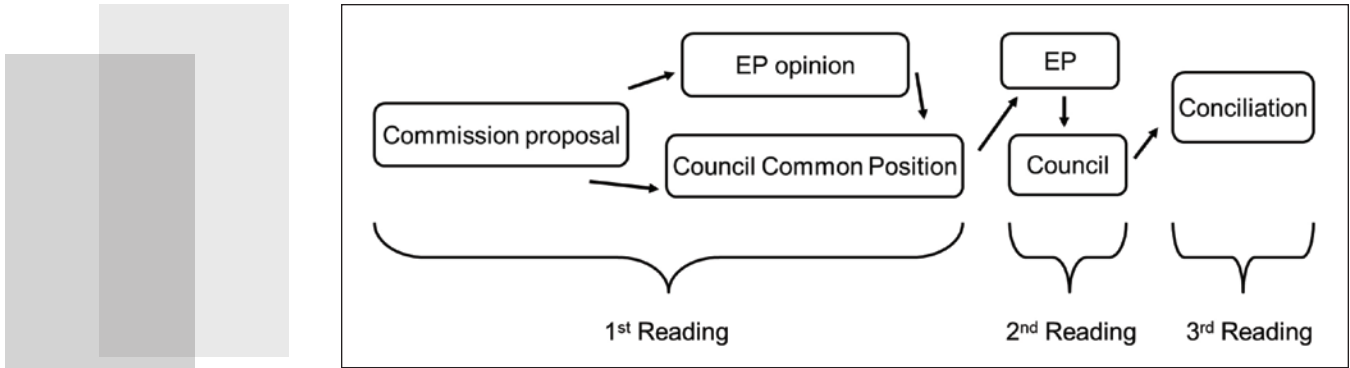

Figure 1: The ordinary legislative procedure
In the meantime, the proposed Regulation is subject to the EU’s ordinary legislative procedure, meaning that the proposal will be scrutinized by the European Parliament (EP) and the Council of the EU in the coming months with tripartite meetings between Parliament, the Council, and the Commission also taking place. The ordinary legislative procedure is illustrated in Figure 1.